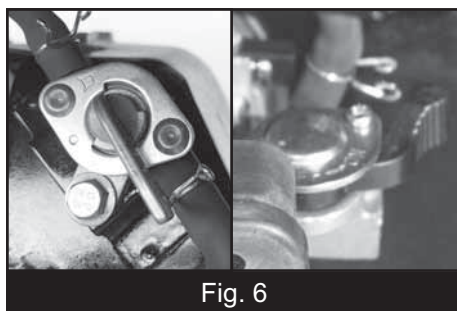

Fig. 6
1. Turn fuel valve 1 & 2 to the ON position (Fig.6)